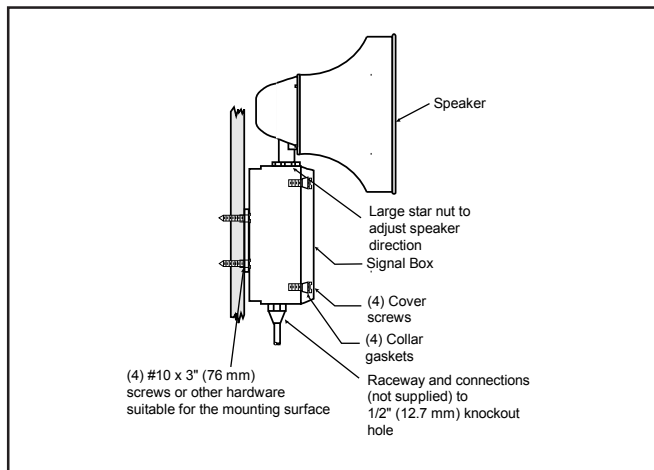

Figure 2. Adaptatone Mounting
1. Mount Adaptatone as shown in Figure 2.
- a. **Flat Surface Mounting.** Secure unit to mounting surface using the (4) mounting holes in the mounting plate on the rear of the box. Use the #10 x 3" (76 mm) wood screws (furnished loose) or other hardware (not supplied) suitable for the mounting surface.
- b. **Rigid Pipe Mounting.** Loosen the (4) cover screws from the signal box and lift off signal box cover.
8. To adjust speaker direction, loosen large star nut (Figure 2) and turn speaker to the approximate desired position.